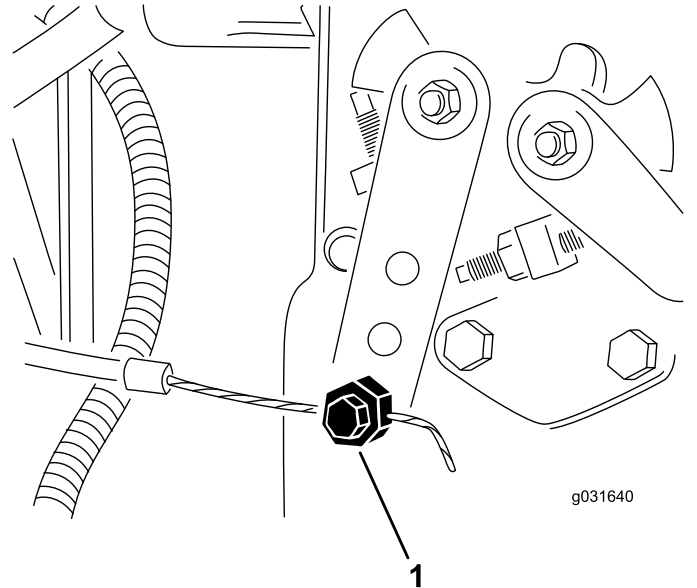

Figure 64
2. Loosen the throttle-cable connector on the injection-pump-lever arm (Figure 64).